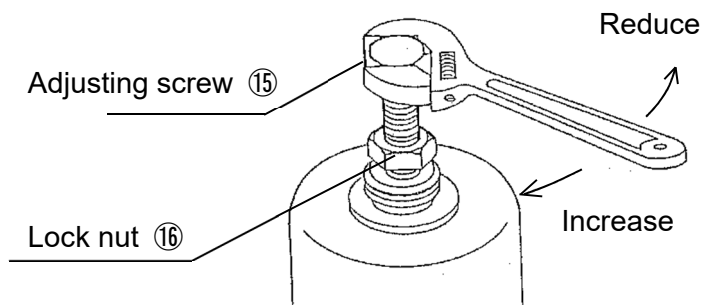

Fig. 12
- (1) Close the stop valves at both sides of the valve, and thoroughly purge the system through the by-pass line. When completed, be sure to close the by-pass valve.
- (2) Loosen the lock nut [14] (see Table 7).
- (3) Slowly open the inlet stop valve, then fully open the outlet stop valve, allowing a trickle to be discharged.
- (4) Slowly turn the adjusting screw [13] (clockwise to increase, counterclockwise to reduce) while observing the pressure gauge on the inlet side (see Fig. 12).
- (5) After the adjustment, tighten the lock nut.